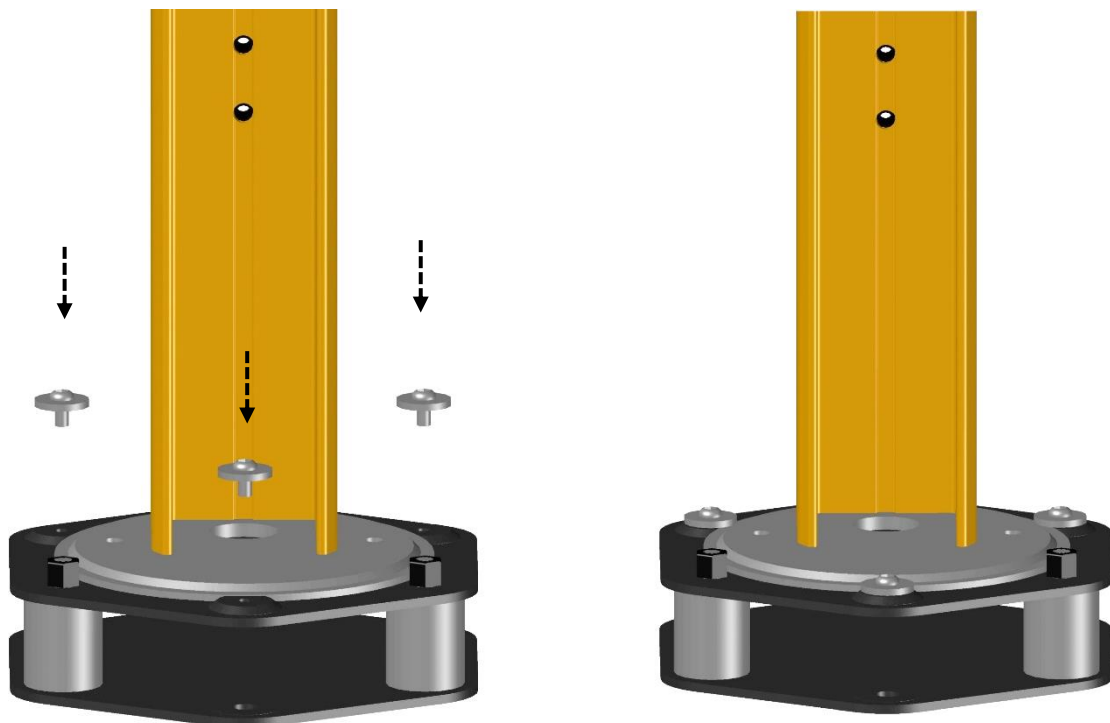

Figure 13
- Place the column base plate on the **FMC-CB/FMC-CBL** stand bottom (Figure 13).